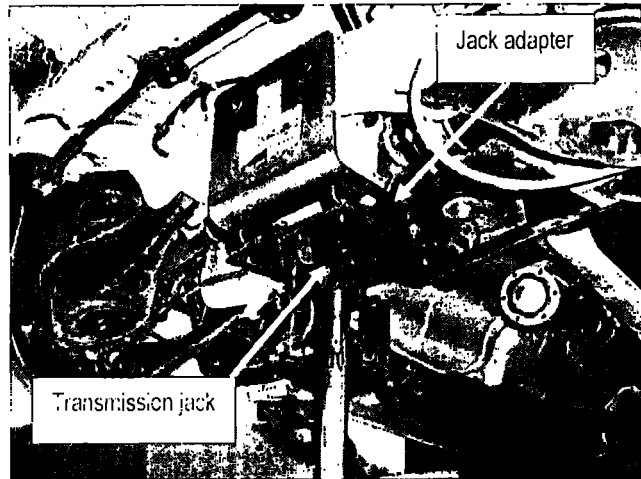

Figure 27
28. Use bolts to install a transmission jack to the jack adapter as shown in Figure 27.